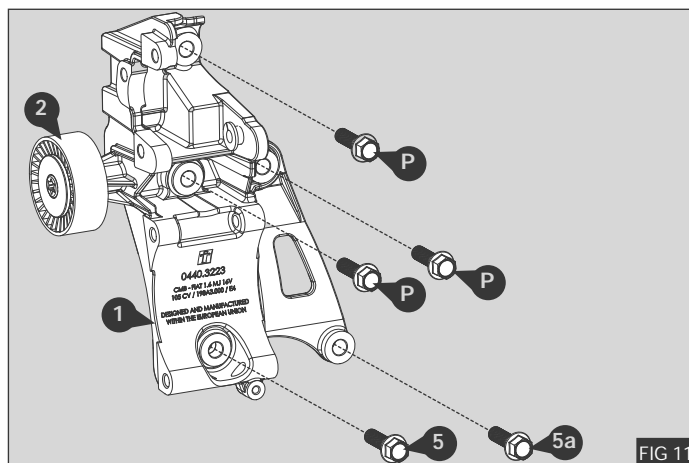

FIG 11
3. Install the mount bracket  to the engine block using three OE M10 bolts  , and two M10 x 35 flange bolts  and  - Fig 11
4. Torque bolts OE M10 x45 bolts  58 Nm / 42.7 lb.ft and M10 x 35 bolt  and  58 Nm / 42.7 lb.ft - Fig 11
5. Now loosen the M10 x 35 flange bolt  and temporarily remove to allow access.- Fig 11